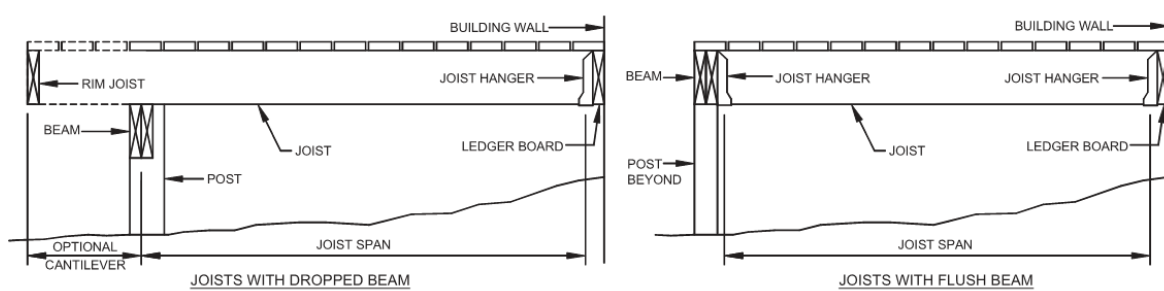

Figure 6: Spans for Deck Joists
- The maximum allowable joist span (as shown in Figure 6), or the maximum length a joist can run between supports, must be in accordance with Table 3 (below). The maximum permissible joist span is dependent on joist material and dimensions.